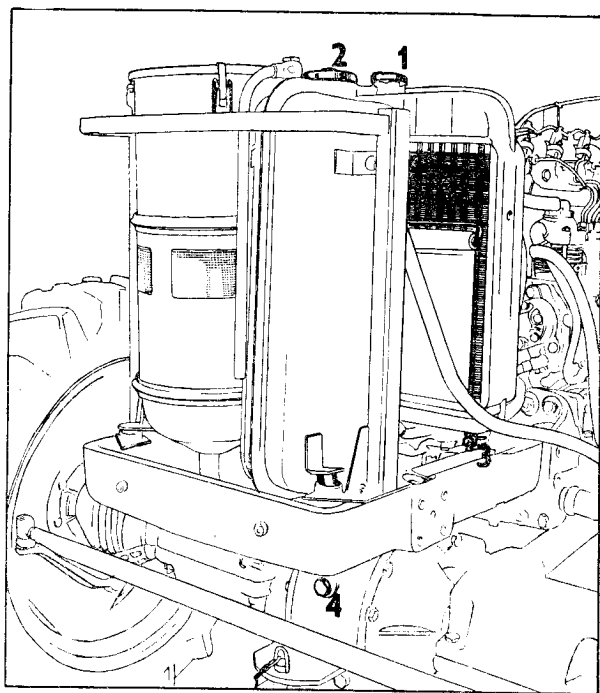

Fig. 10
1. Coolant filling orifice in the radiator (Fig. 10/1).
3. Water drain tap from the radiator (Fig. 10/3).
17. Power assisted steering device oil filling orifice (Fig. 10/2).
18. Front driven axle oil filling orifice (Fig. 10/4).